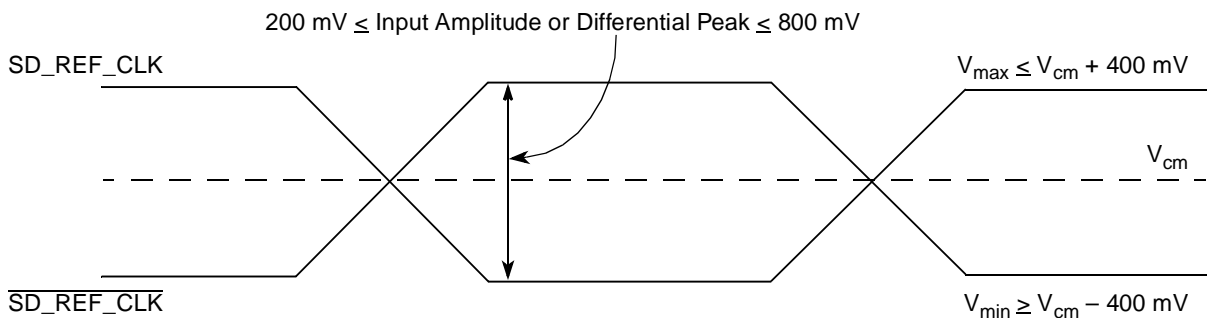

Figure 41. Differential Reference Clock Input DC Requirements (External AC-Coupled)
- For external AC-coupled connection, there is no common mode voltage requirement for the clock driver. Since the external AC-coupling capacitor blocks the DC level, the clock driver and the SerDes reference clock receiver operate in different command mode voltages. The SerDes reference clock receiver in this connection scheme has its common mode voltage set to SGND_SRDSn. Each signal wire of the differential inputs is allowed to swing below and above the command mode voltage (SGND_SRDSn). Figure 41 shows the SerDes reference clock input requirement for AC-coupled connection scheme.